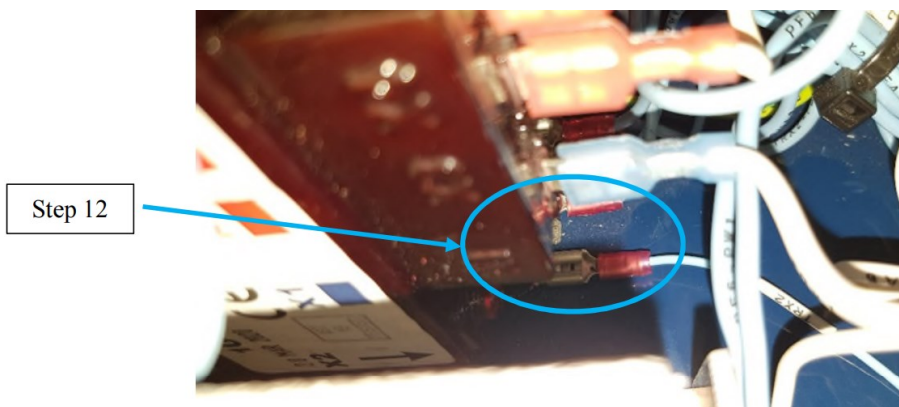

Figure 6c: TRX2 connection to Transformer
16. Connect the wire marked TRX2 to the low voltage side of transformer at an open X2 connector. See Figure 6c.